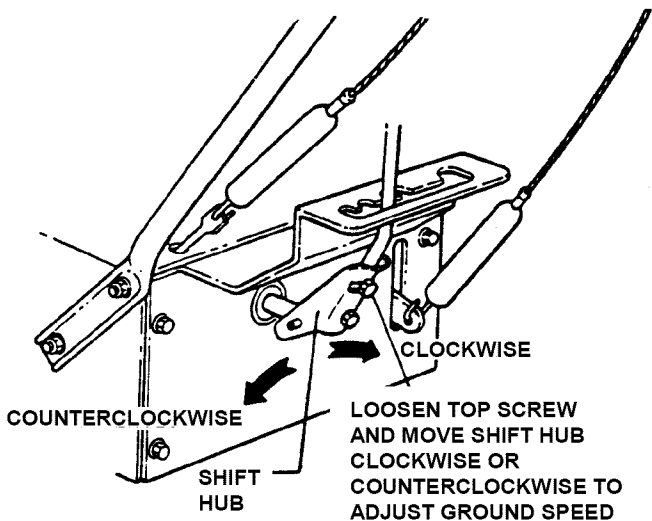

FIGURE 4.8
2. Loosen the top screw that connects the shift rod to the shift hub. See Figure 4.8.
3. Move shift rod clockwise to obtain more ground speed or counter clockwise for less ground speed. Retighten top screw after adjustment. See Figure 4.8.